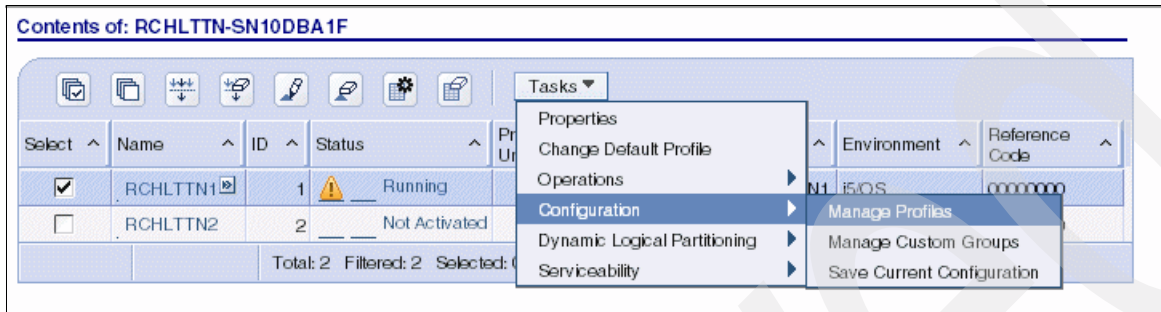

Figure 5-1 Selecting the HMC partition profile properties
1. Select the partition name with which you are working. Then, select **Tasks** → **Configuration** → **Manage Profiles** as shown in Figure 5-1.